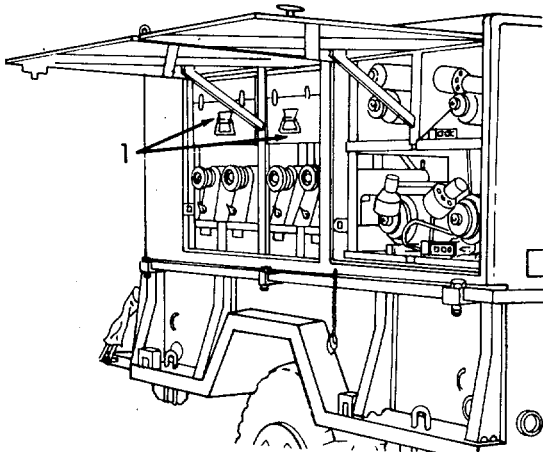

Figure 2-66. Storage Boxes, Installation.
h. Sewing Machine Tables Assemblies, Folding Stands, and Storage Boxes Installation (Refer to Figures 2-66 through 2-68).
- (1) Refer to Figure 2-66. Verify that all tools and equipment listed in Table 2-6 are in the storage boxes.
- (2) Slide the storage boxes (1) into the cabinet.